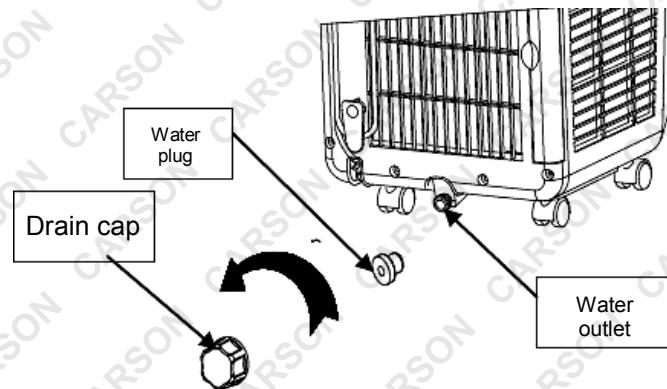

Figure 13
- Screw off the water cap in the direction shown above and then remove the water plug (Figure 13).